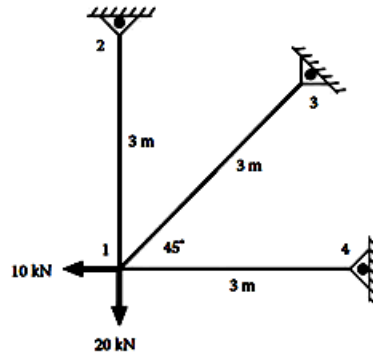

Figure 2
4. For the plane bar-truss structure shown in Figure 2, determine the horizontal and vertical displacements at node number 1. Given E , Young's Modulus = 210 GPa and A , area of each truss = 400 mm^2 . Also find the stresses in each element. [10]